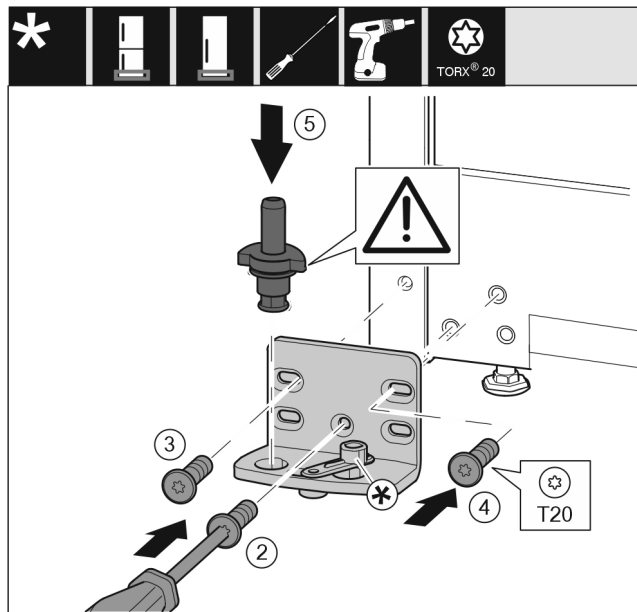

Fig. 16
- ▶ Attach the swap bearing block onto the other side and screw it on using a screwdriver. Start with the screw Fig. 16 (2) at the bottom center.
- ▶ Tighten screw Fig. 16 (3) and screw Fig. 16 (4).
- ▶ Insert the bearing pin Fig. 16 (5) completely. In the process, make sure that the latching cam shows towards the rear.